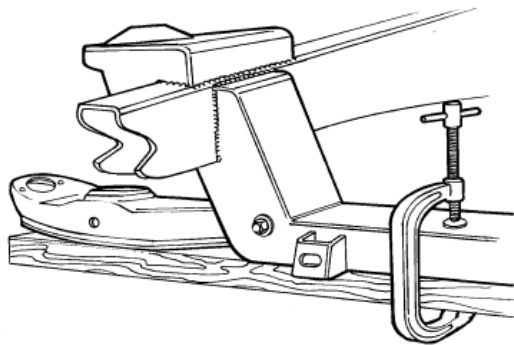

Figure 10- Lower Control Arm Install
- 11.) If you are using factory lower control arms and strut rods you will continue here. Use the lower control arm and strut rod for locating the rear strut-rod supports and gussets. Using a 2 x 4 and a C-clamp, install the control arm as shown in **Figure 10**.